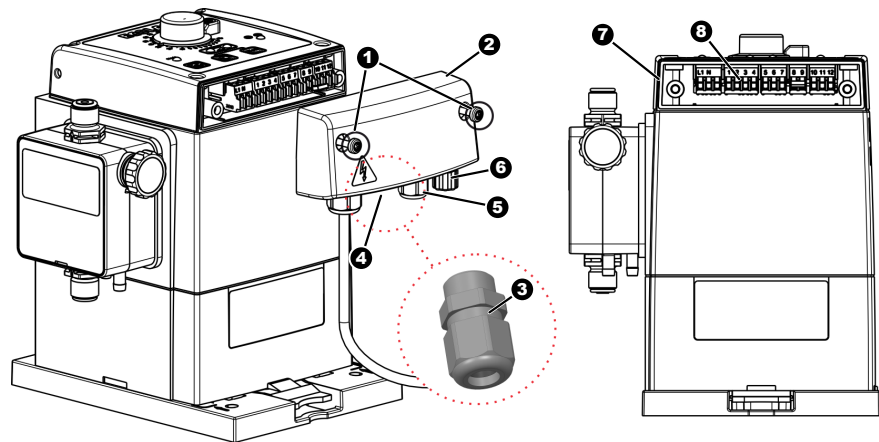

Fig. 9: 'EcoEvo' electrical installation
1. → Remove both housing screws (Fig. 9, 1).
2. → Remove the terminal cover (2).
3. → To connect the metering volume or alarm output, install the supplied cable union (3) at the appropriate point (4), feed the cable through, tighten the union and connect the cable cores according to the terminal diagram.
4. → To connect the pulse or release input, feed the cable through the appropriate cable union (5), tighten the union and connect the cable cores according to the terminal diagram.
5. → Connect the connection for the level input to the socket (6) provided for this purpose.
6. → After the electrical installation has been completed, fit the terminal cover (2) back onto the housing.
Terminal assignment The terminals can be accessed after removing the terminal cover (Fig. 9, 2).